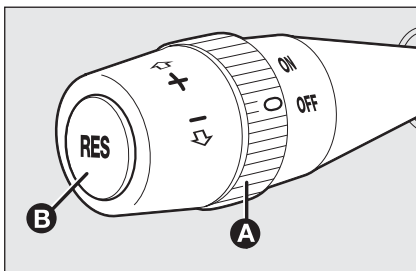

fig. 78
Turn knurled ring **A**-fig. 78 to **ON**.
- ☐ turn the knurled ring **A**-fig. 78 to **ON** and press the accelerator pedal to the required speed;
- ☐ press the RES button **B**-fig. 78.
Turn the ring **A**-fig. 78 to **OFF** or the ignition key to **STOP**. The device is automatically deactivated also in one of the following cases: